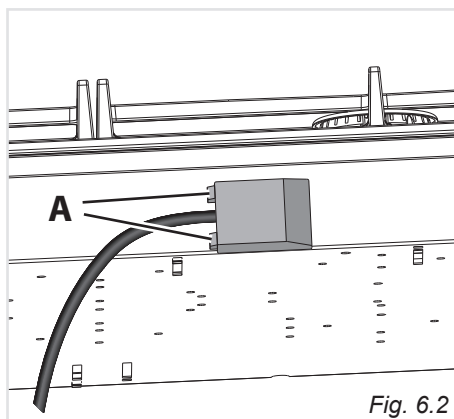

Fig. 6.2
- Unhook the terminal board cover by inserting a screwdriver into the two hooks “A” (fig. 6.2).